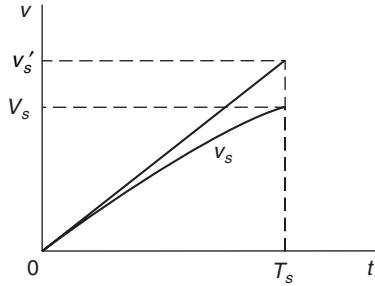

Fig. 8.35 Relating to the Definition of Transmission Error.
3. *The Transmission Error, e_t* : If a ramp voltage is transmitted through a *high-pass RC network*, the output falls away from the input as indicated in Fig. 8.35.
The transmission error is defined as the *difference between the input and output divided by the input*. Thus, with reference to Fig. 8.35, we have (at time $t = T_s$)